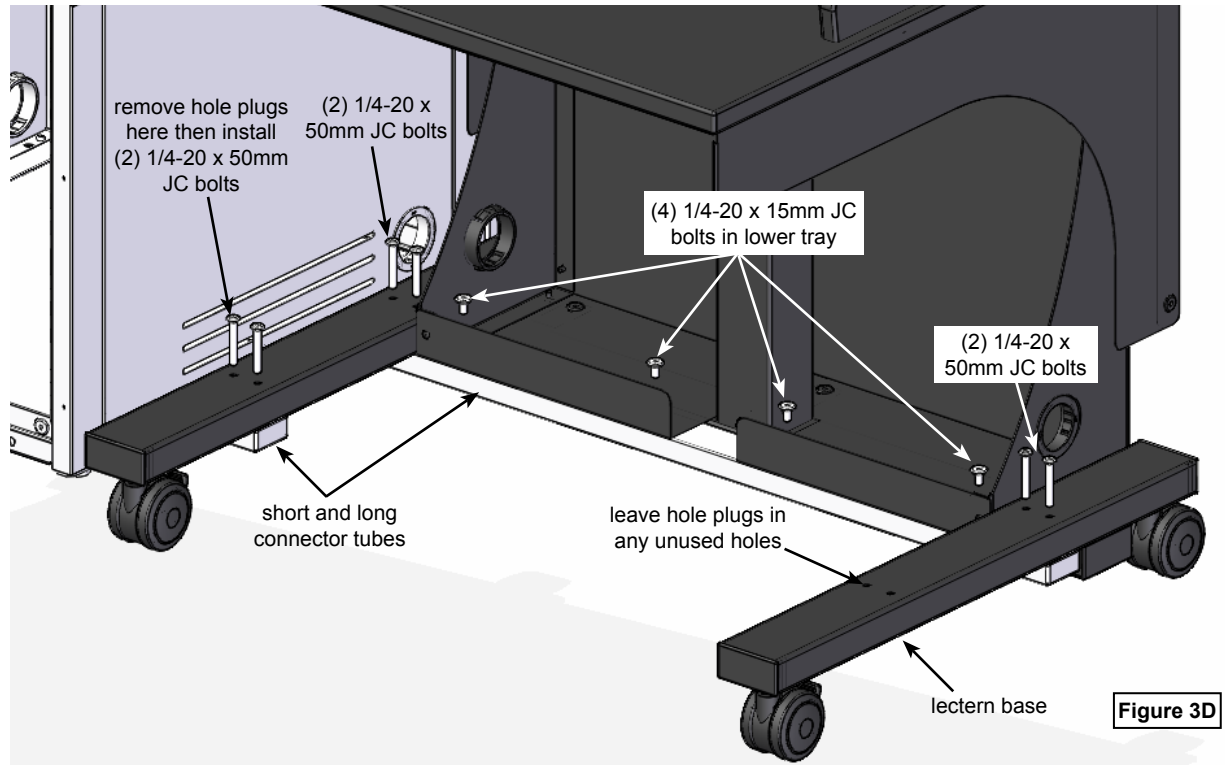

**Figure 3C**
1. On the lectern, locate the existing lower support brace. **Figure 3C.**
2. Remove the (4) 1/4-20 x 15mm JC bolts from the lower tray.
3. Remove the (4) 1/4-20 x 50mm JC bolts from the lectern base to take off the support brace.